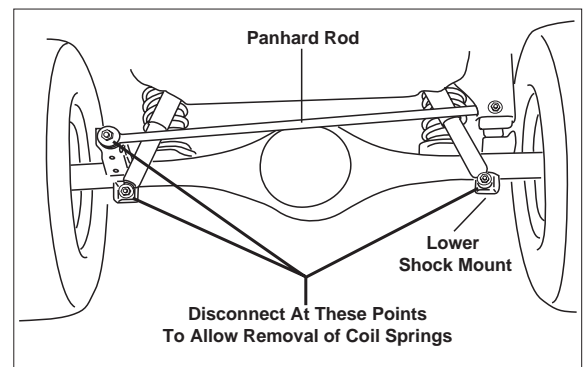

Figure 2
- a. Detach the shock absorbers at the lower shock mount (Figure 2).
- b. Detach the panhard rod at the lower axle mount (Figure 2).